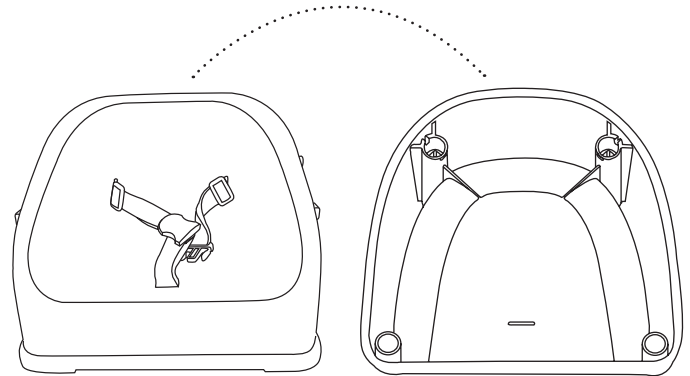

Fig. 16
1. Flip floor seat over to see bottom. (Fig 16).